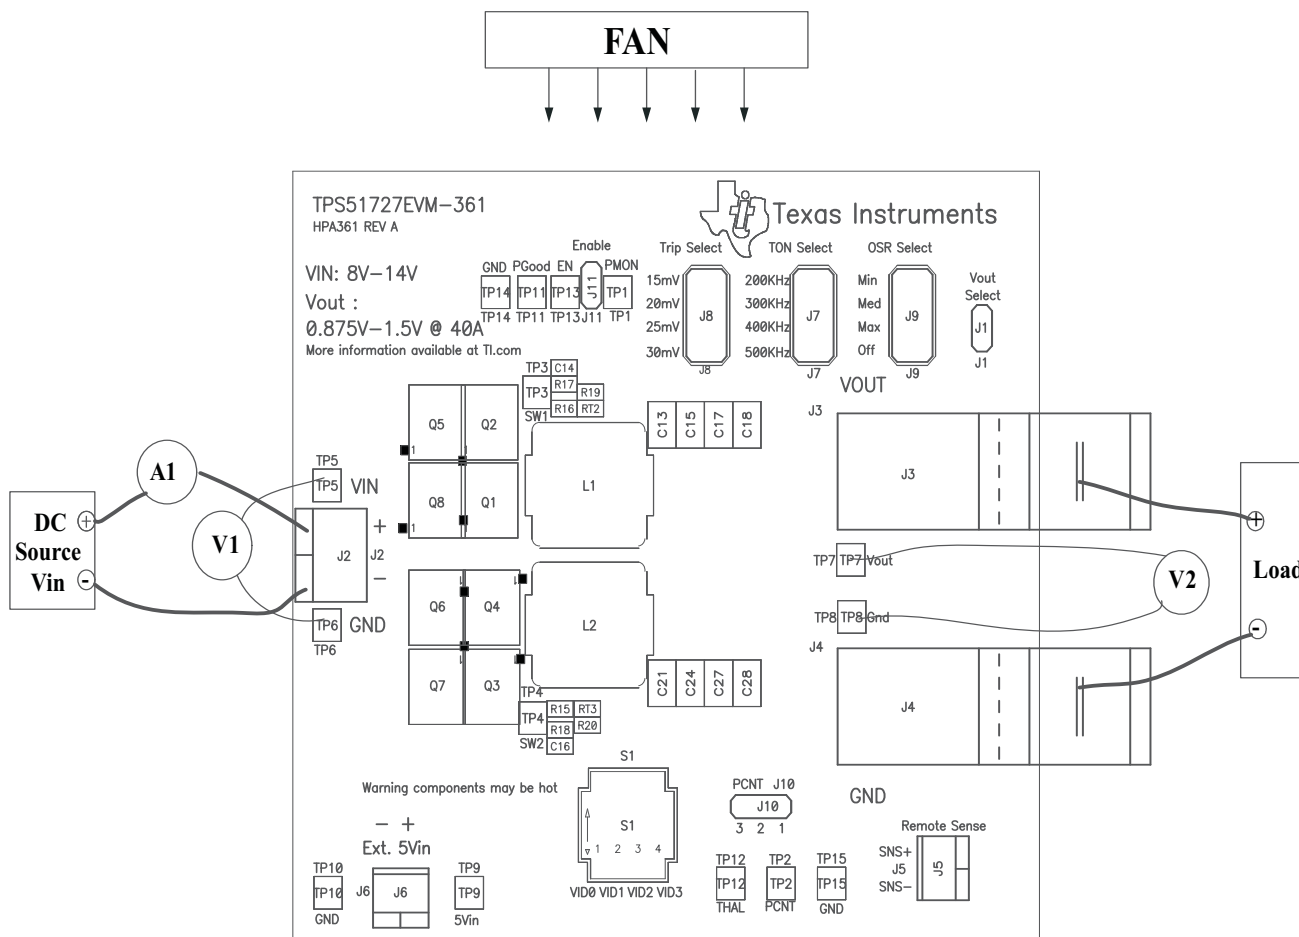

Figure 4. TPS51727EVM Recommended Test Setup
Voltage Source: The input voltage source V_{in} must be a 0-V to 14-V variable dc source capable of supplying 20 A dc. Connect V_{in} to J2 as shown in Figure 4.
Multimeters: A 0-V to 14-V voltmeter must be used to measure V_{in} at TP5 (V_{in}) and TP6 (GND). A 0-V to 5-V voltmeter must be used for V_{out} measurement at TP7 (V_{out}) and TP8 (GND). A 0-A to 20-A current meter (A1) as shown in Figure 4 is used for input current measurements.
Figure 4 is the recommended test setup to evaluate the TPS51727EVM. Working at an ESD workstation, ensure that any wrist straps, bootstraps, or mats are connected, referencing the user to earth ground before power is applied to the EVM.
1. Prior to connecting the dc input source V_{in} , it is advisable to limit the source current from V_{in} to 15 A maximum. Ensure that V_{in} is initially set to 0 V and connected as shown in Figure 4.
Place a fan as shown in Figure 4 and turn it on, ensuring that air is flowing across the EVM.